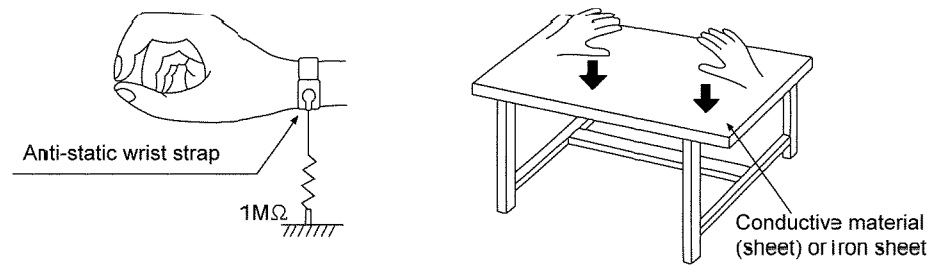

Figure 2
1. Use the anti-static wrist strap to discharge the static electricity form your body. (Figure 2)